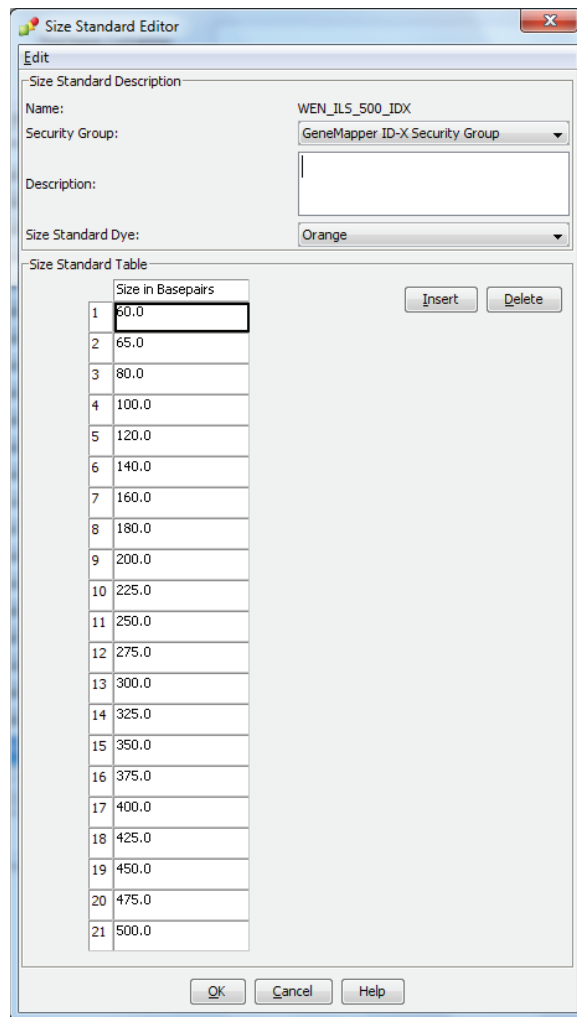

Figure 21. The GeneMapper® ID-X Size Standard Editor.
4. In the 'Size Standard Editor' window (Figure 21), select **GeneMapper ID-X Security Group** as the Security Group. This allows access for all users of the software. Other security groups may be used.